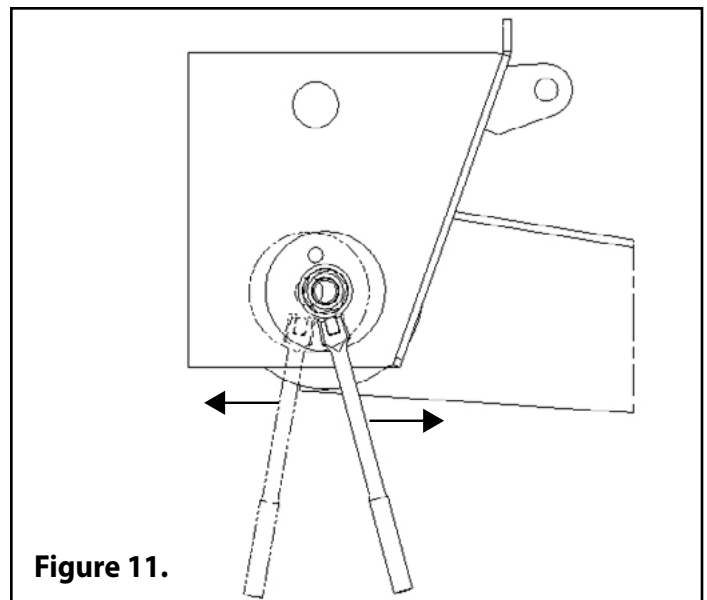

Figure 11.
2. Locate the adjuster plate at the pivot connection. Insert a 1/2"-shank breaker bar into the square hole of the adjuster plate. Move the arm beam forward or backward until the axle reaches the desired alignment location (Fig. 11).